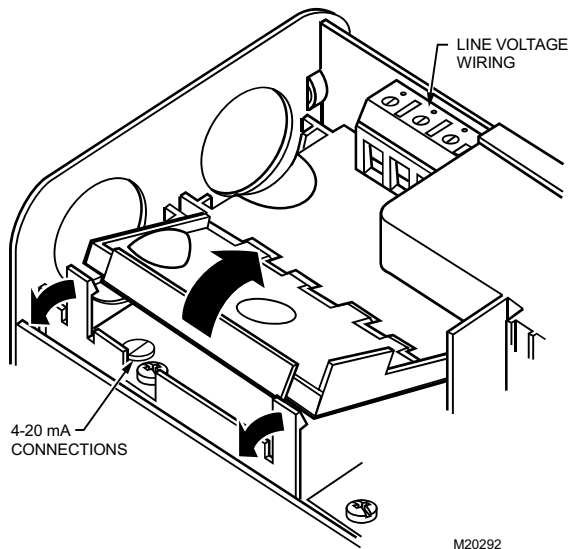

Fig. 5. Opening ML7999B low-voltage wiring compartment
2. Pull back the snap-locks while opening the low-voltage compartment. See Fig. 5.